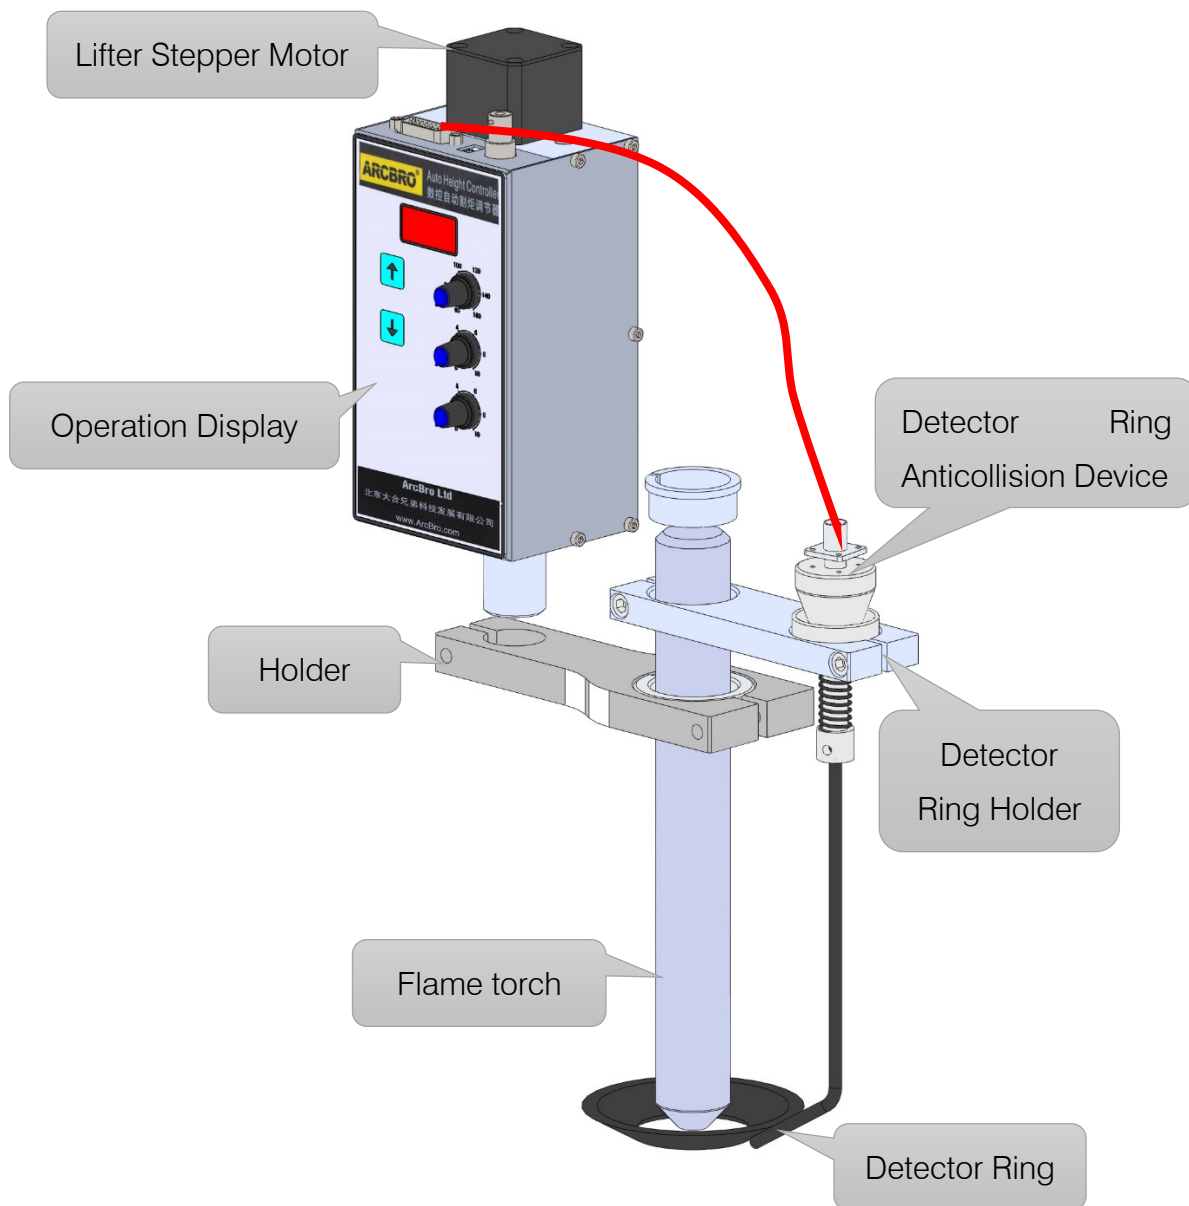

Fig. 3-1 Each Component Position, Name and Function of Controller
- ◆ For the names and positions of related components of THC, please see Fig. 3-1.